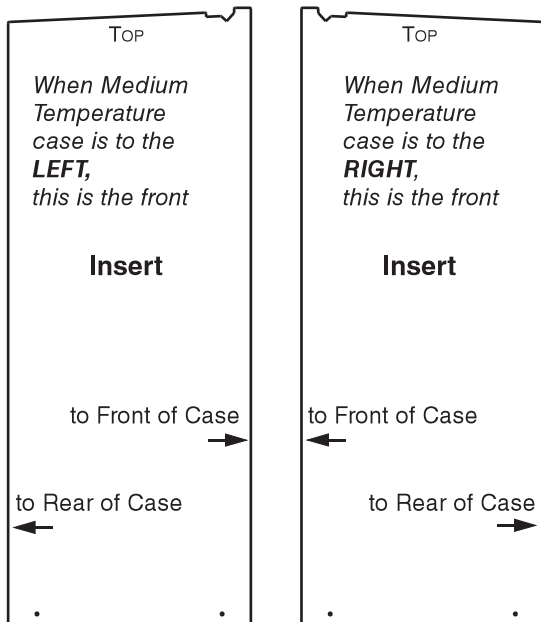

Figure 1 — Determine Front of Insert
5. Determine which side of the INSERT is the front, or face. Refer to Figure 1 on next page.
6. Verify in which case the insert will go, then match the partition profile with the insert (Figure 1). The heater will be applied to the back of the insert.